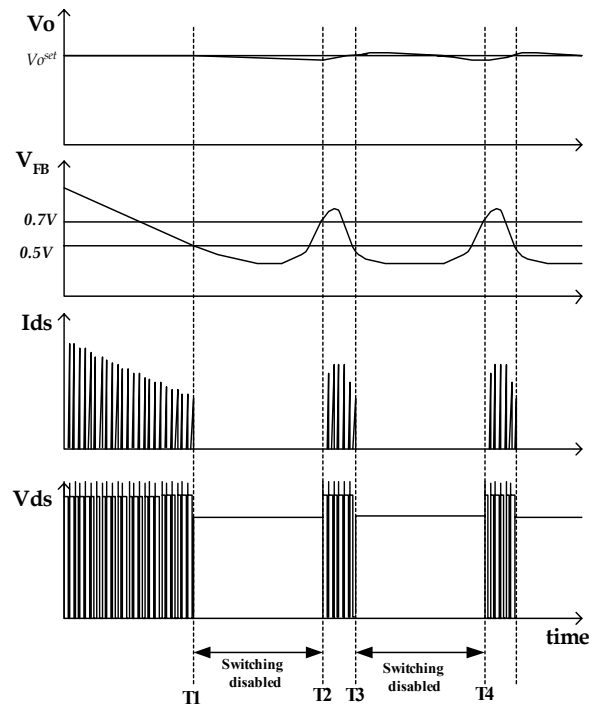

Figure 9. Waveforms of burst operation
5. Burst operation : In order to minimize power dissipation in standby mode, the FPS enters burst mode operation. As the load decreases, the feedback voltage decreases. As shown in figure 9, the device automatically enters burst mode when the feedback voltage drops below V_{BURL} (500mV). At this point switching stops and the output voltages start to drop at a rate dependent on standby current load. This causes the feedback voltage to rise. Once it passes V_{BURH} (700mV) switching resumes. The feedback voltage then falls and the process repeats. Burst mode operation alternately enables and disables switching of the power Sense FET thereby reducing switching loss in Standby mode.